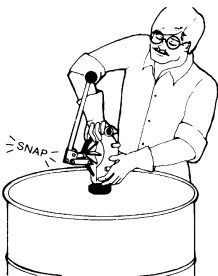

Figure 3
4. Install pump and tubing into bung adapter by firmly pushing straight down. Pump will snap into place (See Figure 3). Tighten the bung adapter clamp. Thread hose assembly (Ref. No. 16) and adapter or spout (Ref. No. 34) into pump housing.
6. Install the hose and suction tubes as required. Refer to Figure 3.